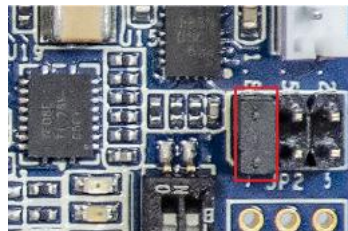

Figure 4-13 Select 1.8V on JP2 VCCIO_FMC VAR
16. Make sure the VCCIO_FMC VAR **JP2** of the Apollo S10 SoM is set to 1.8V as shown in **Figure 4-13**.